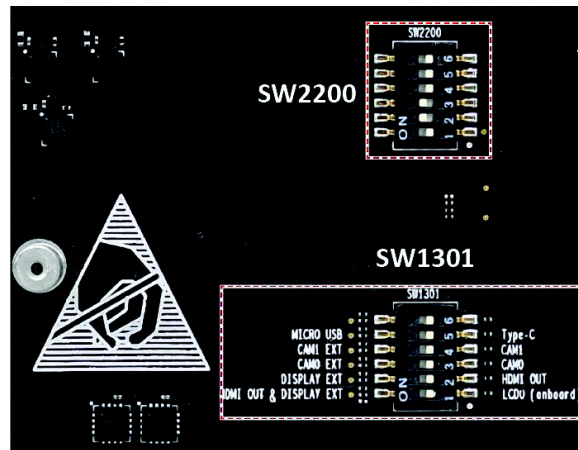

Figure 3-3. Set the Dip Switches
Step 4. Set the Dip switches. Refer to Table 1-3 and Figure 3-3.